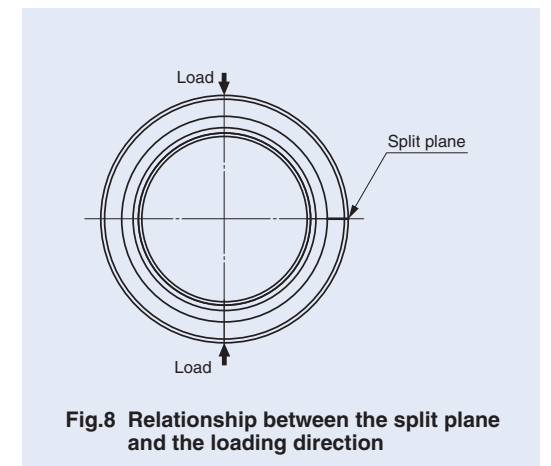

Fig.8 Relationship between the split plane and the loading direction
① When mounting Spherical Bushings, pay attention to the location of the split plane of the outer ring. Set the split plane at right angles to the direction of load to avoid the application of load to the split plane as shown in Fig. 8.
② The shoulder dimensions of shaft and housing are shown in the dimension tables.